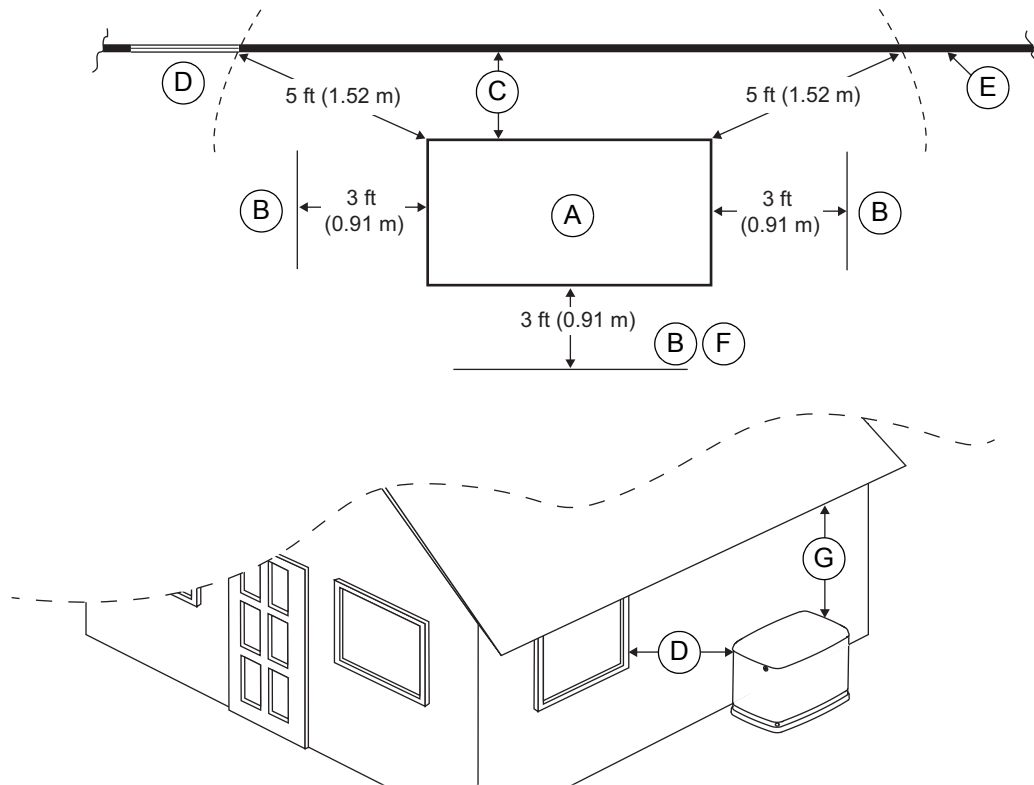

Figure 3-1. Installation Clearances
Install the generator set, in its protective enclosure, outdoors where adequate cooling and ventilating air is always available (**Figure 3-1**). Consider these factors:
NFPA 37 is the The National Fire Protection Association's standard for the installation and use of stationary combustion engines. Its requirements limit the spacing of an enclosed generator set from a structure or wall (**Figure 3-1**).
NOTE: Southwest Research Institute testing approves 18 in (457 mm) installation minimum from structure (**Figure 3-1**, C). Southwest Research Institute is a nationally recognized third party testing and listing agency.
Based on this testing and the requirements of NFPA 37, Sec 4.1.4, the guidelines for installation of the generators listed above are changed to 18 in (457 mm) from the back side of the generator to a stationary wall or building (C). For adequate maintenance and airflow clearance, the area above the generator should be at least 5 ft (1.52 m) with a minimum of 3 ft (0.91 m) at the front and ends of the enclosure. This includes trees, shrubs, and bushes. Vegetation not in compliance with these clearance parameters could obstruct air flow. In addition, exhaust fumes from the generator could inhibit plant growth. See **Figure 3-1** and the installation drawing within the owner’s manual for details.